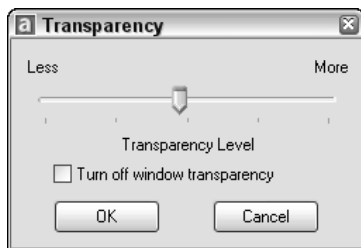

Figure 26-8: The Transparency dialog box
- ♦ **Transparency:** Opens the Transparency dialog box, shown in Figure 26-8. When the tool palette is transparent, you can see the drawing through it. You can specify the amount of transparency or turn it off.